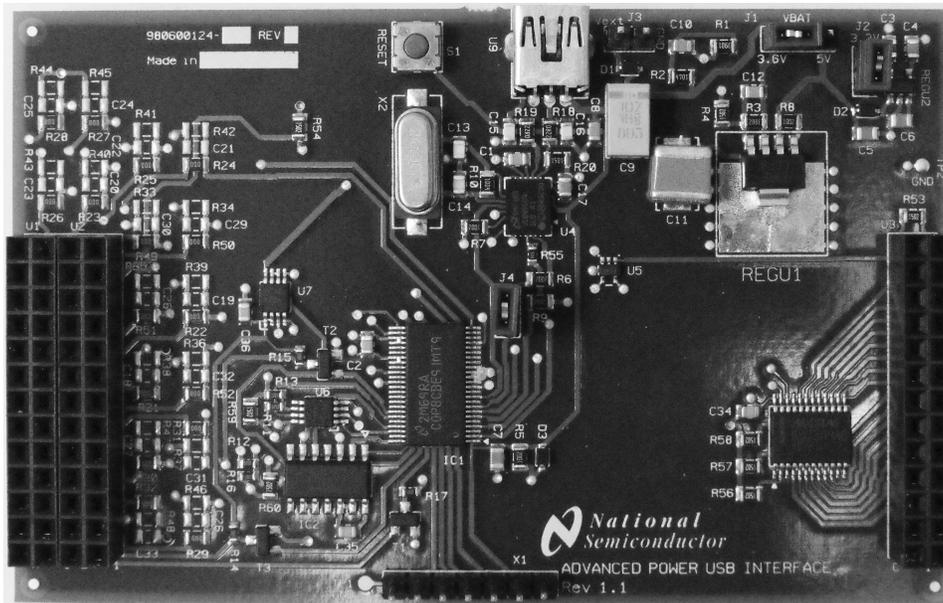

Figure 2. USB Interface Board
- USB Interface Board (Figure 2)